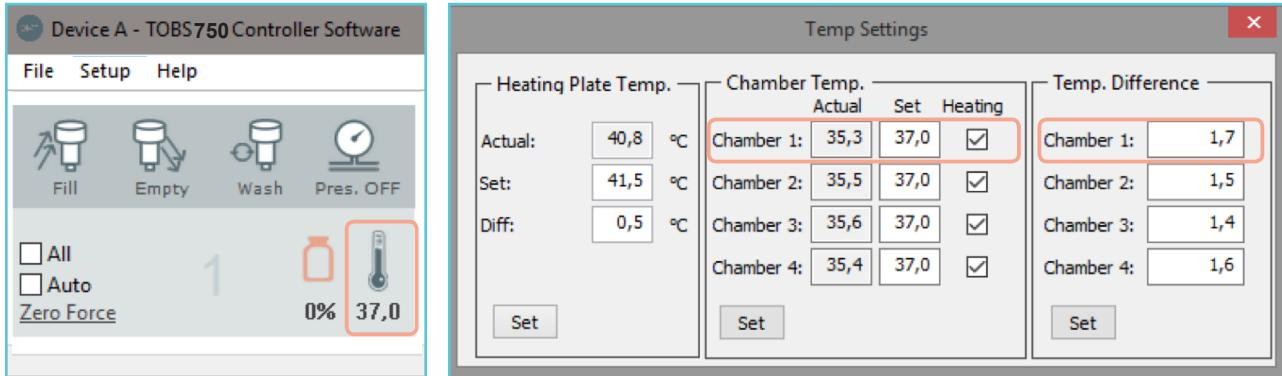

Figure 40: Temperature Difference setting to compensate for heat loss.
- **Temp Difference:** The difference due to heat loss can be compensated for, by entering the difference between the Actual temperature (also shown in main menu) and the Set temperature. In the example shown in figure 40.
The Set temperature is 37°C and the Actual temperature is 35.3°C which is 1.7°C too low. To compensate for the 1.7°C heat loss in chamber 1 enter 1.7°C in the Temp. Difference. The same is done for all four chambers as can be seen on figure 40. Click on 'Set' to save the changes.